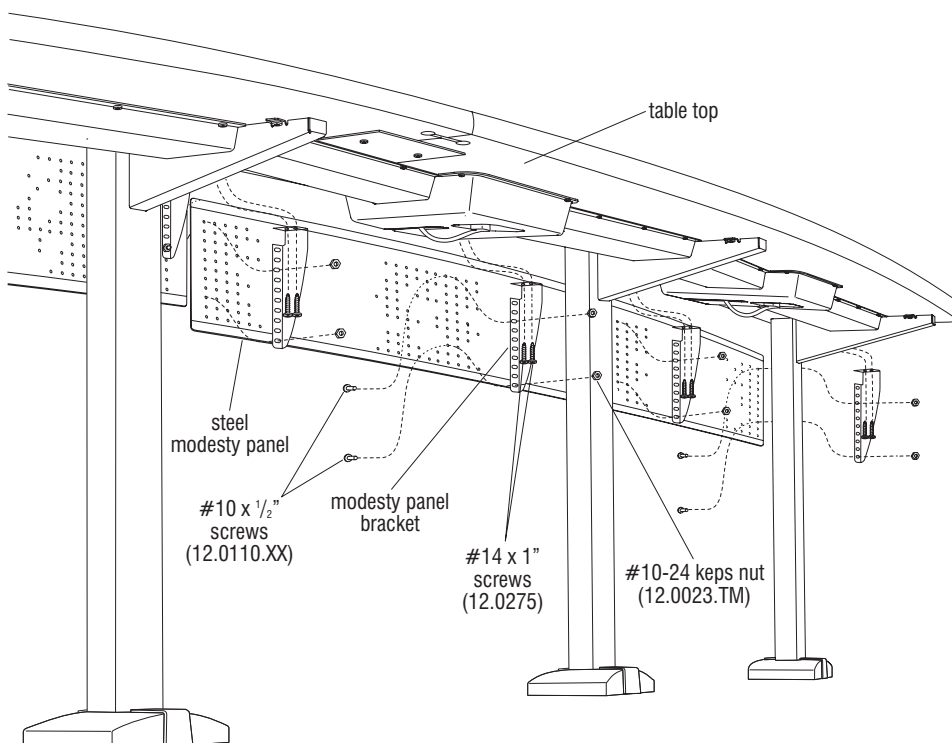

Figure 22
**be installed to the end set of holes on both sides of the modesty panel. If necessary, the power & data shrouds may be modified to clear the end brackets.** Begin assembly by installing the bracket to the modesty panel first. The longer flange of the bracket should be secured to the modesty panel with two  $\#10 \times 1/2$ " screws and  $\#10-24$  keps nuts. Tighten nuts to 35 in/lbs. Insert the screws through the top hole in the panel and into the 3rd hole from the top on the bracket. The lower screw should be routed through the modesty panel so that it secures to the aligned hole in the bracket. A modesty panel bracket must be installed to the end set of holes on both sides of modesty panel. If necessary, the power/data shrouds may be modified to clear the end brackets (Figure 22).